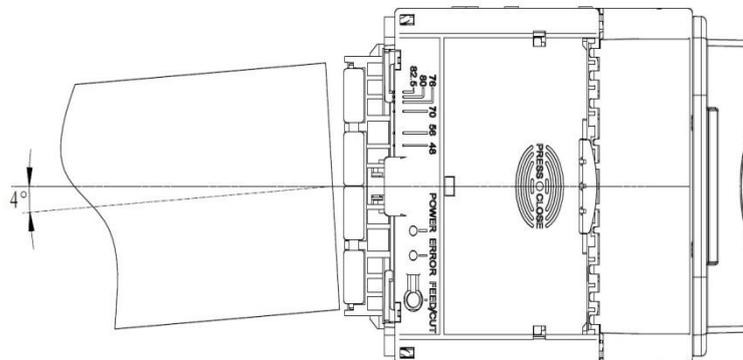

Fig. 4.6-4 Paper loading
- 2) Refer to Figure 4.6-4, push paper into the paper inlet and release your hands when the platen roller starts rotating and holds the paper.